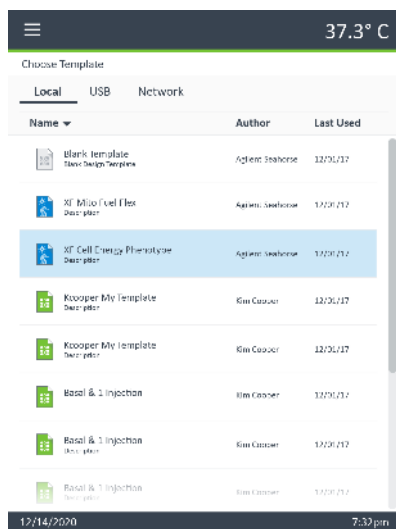

Figure 3. Local tab.
- 2 Select a template provided by Agilent to perform a specific assay. These templates can be found in the **Local** tab. See **Figure 3**.